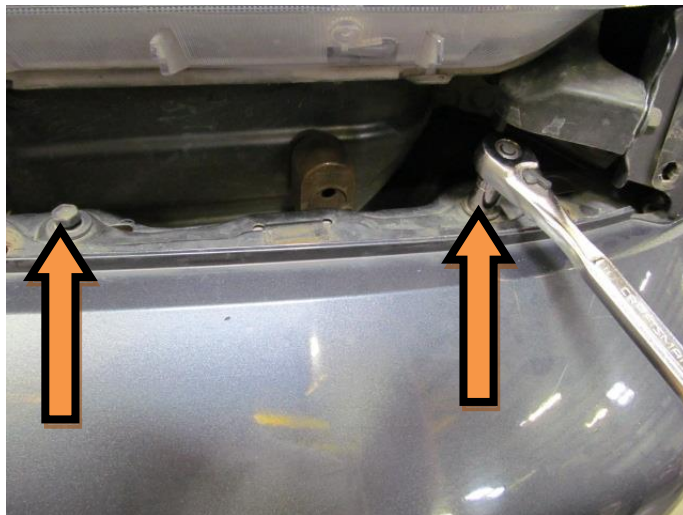

FIGURE 8:
6. USING A 10MM SOCKET REMOVE TWO BOLTS UNDER THE HEADLIGHT COMPARTMENT (BOTH SIDES) SEE FIGURE 8.